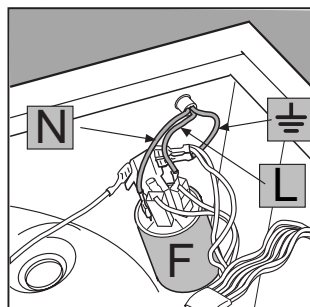

Fig. 4
3. Disconnect the wires from the radio interference suppressor **F** [fig. 4] noting as to their position (**Blue=N** wire; **Brown=L** wire) leaving the earth wire until last  $\equiv$ .